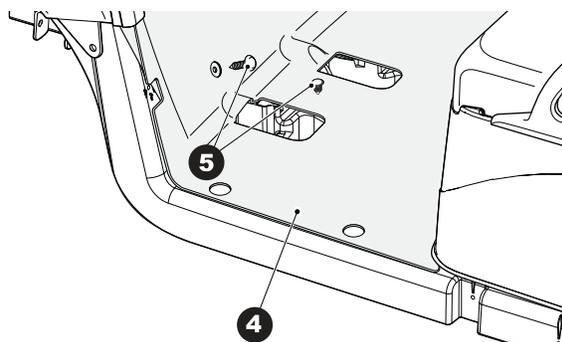
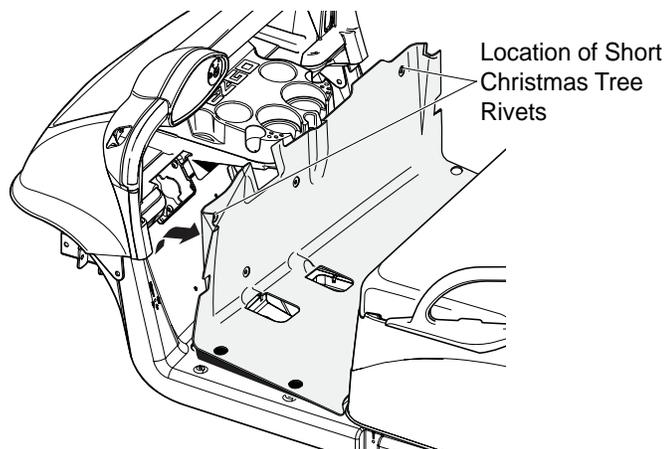

Fig. 5 Floor Mat Fastener Removal
Fig. 6 Floor Mat
Floor Mat (Ref. Fig. 5) (Ref. Fig. 6)
1. Remove six christmas tree rivets (5) securing the floor mat to the floorboard (4). (Ref. Fig. 5).
Installation of the floor mat will require new christmas tree rivets — **install the shorter christmas tree rivets in the upper corners of floor mat** (Ref. Fig. 6).